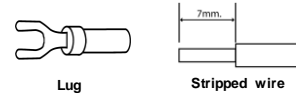

Fig. 4. Wire Type
- Use flexible cable (stranded or solid) of AWG 14-10. User should calculate and select the suitable wire specification (type/quantity/diameter) according to actual output current. The torque at the Connector shall not exceed 12.4 Kgf.cm. (10.54 lbf.in). The insulation stripping length should not exceed 0.275" or 7 mm. (Refer to Fig. 4).